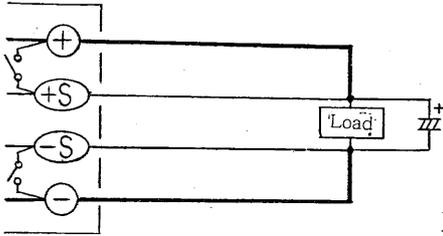

Fig 4
* For fine setting of the load terminal voltage, insert the attached sensor plugs into the output sensor terminals (+S) and (-S) on the panel. Perform connection as shown in Figure 4 and carry out remote sensing.